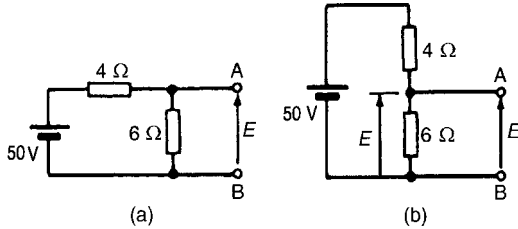

Figure 13.30
- (ii) The open-circuit voltage, E , across terminals AB in Fig. 13.30(a) is the same as the voltage across
the 6 Ω resistor. The circuit may be redrawn as shown in Fig. 13.30(b)